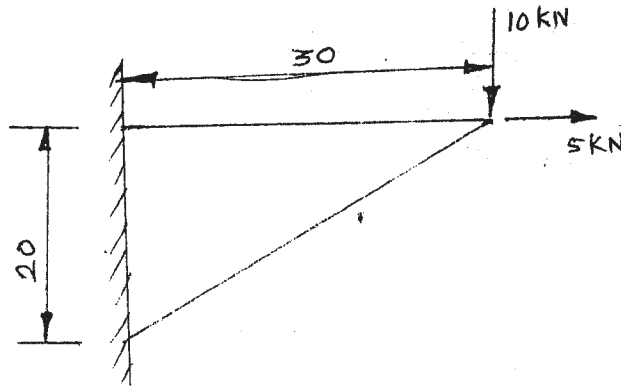

Fig. 5
b) A two dimensional loaded plate is shown in fig. 5. Determine the displacement of nodes 1 and 2 using plane stress condition by considering it as a single element. Ignore body forces. Also determine the reaction forces and the stresses in the element. Assume thickness as  $10 \text{ mm}$ ,  $E = 70 \text{ GPa}$  and  $\mu = 0.3$ . [10]